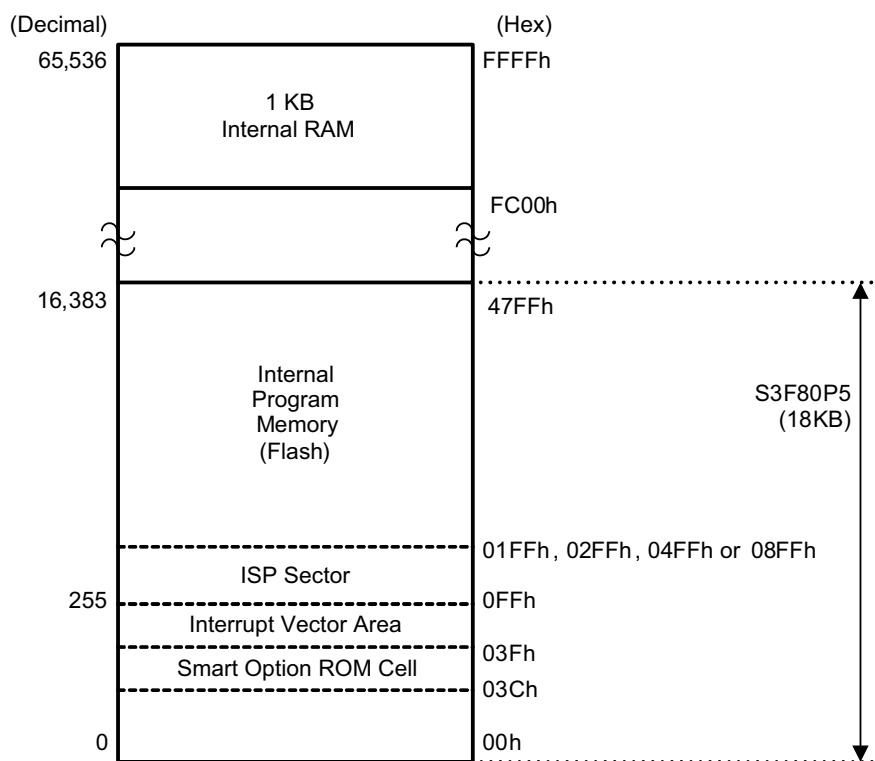
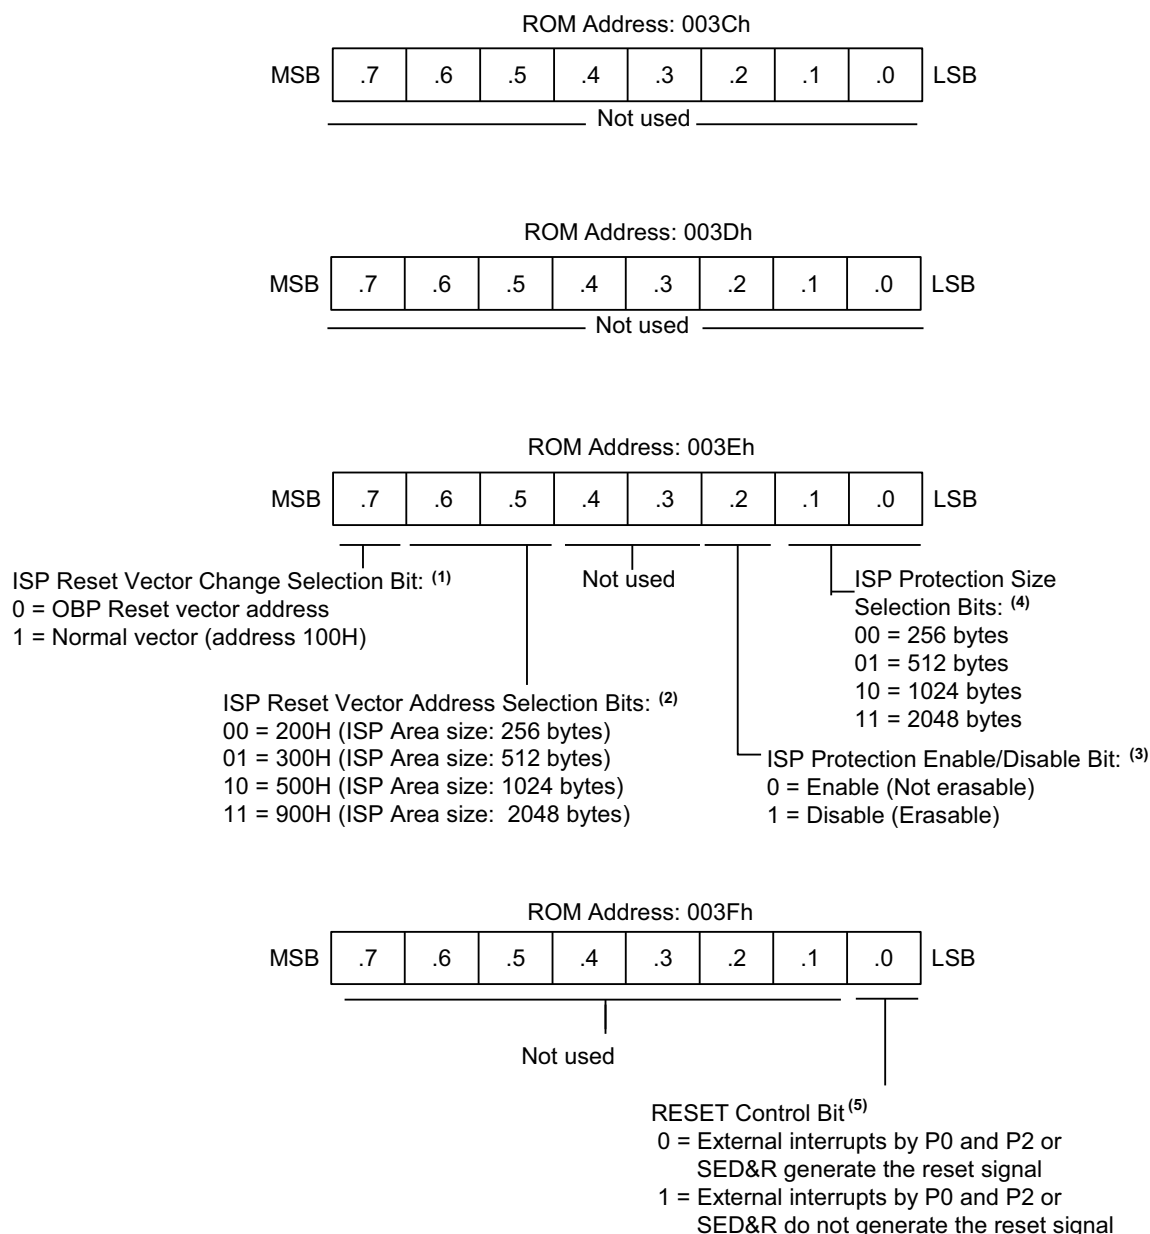

Figure 9. Program Memory Address Space
Figure 10. Smart Option
Program memory (ROM) stores program code or table data. The S3F80P5 MCU features 18KB internal programmable Flash memory. The address range for this Flash program memory is 0000h–47FFh, as shown in Figure 9.
The program memory address at which program execution starts after a reset is 0100h by default. If you use the ISP sectors for ISP software storage, the reset vector address can be changed by setting the Smart Option, as shown in Figure 10 on page 15.
1. In Figure 9, the size of the ISP sector can be adjusted by using the Smart Option, shown in Figure 10. According to its Smart Option setting, the ISP reset vector address can be changed to addresses 200h, 300h, 500h, or 900h.
The *Smart Option*, diagrammed in Figure 10, is the ROM option for the start condition of the MCU. The ROM address used for the Smart Option ranges from 003Ch to 003Fh. The S3F80P5 MCU uses only addresses in the range 003Eh to 003Fh.
1. In Figure 10, by setting ISP reset vector change selection bit (3Eh.7) to 0, the ISP area becomes available. If this bit is 1, 3Eh.6 and 3Eh.5 are rendered meaningless.